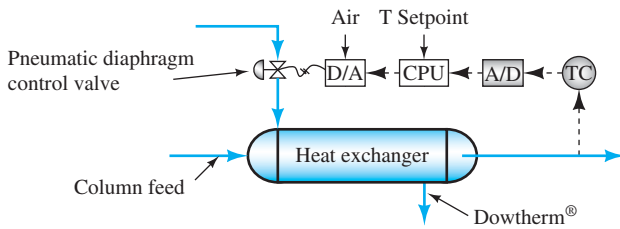

FIGURE 1.11 Detailed control scheme for situation 2.
The dilute column feed to the ethanol separator is fed to the preheater where its temperature is increased by thermal contact with the Dowtherm[®]. As the feed exits the preheater, the thermocouple (TC) measures its temperature and emits an analog voltage signal (see Figure 1.11). The A/D converts the analog signal to a digital signal, and sends it to the CPU where the temperature is compared to a predetermined set-point temperature.